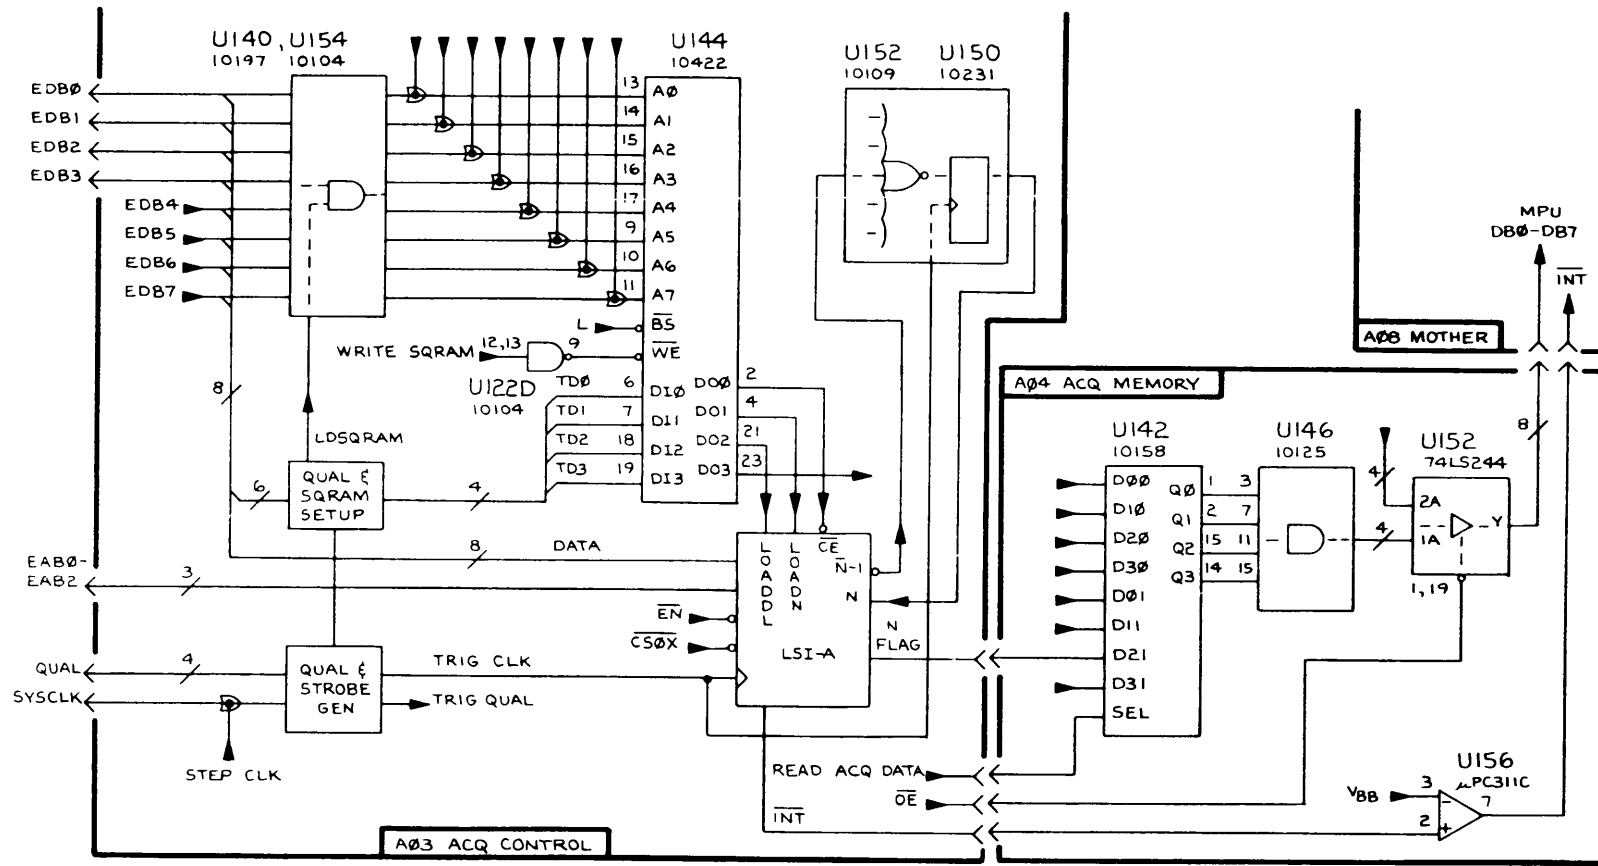

Figure 7-42. 338 N and DELAY counter test.
**Description:** Refer to Figure 7-42. The Event Delay counter U158 (event/delay counter,  $\mu$ PB3Z198R) on the A03 ACQ Control board is controlled by three signals,  $\overline{CE}$ , LOAD N, and LOAD DL from the SGRAM U144 (256 word X 4-bit RAM, HM10422) on the A03 board. The counter generates  $\overline{N-1}$  as a carry when it reaches full count. This Event/Delay counter has two registers, the one which holds the N value is called the N-register and the one which holds the DELAY value is called the DL register.